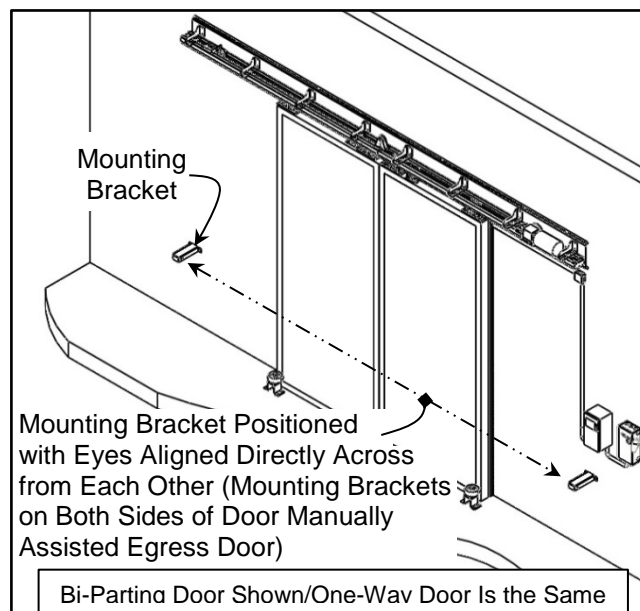

Figure 42
3. Locate the photo eye set. The photo eyes that monitor the front side of the door are located in the heavy-duty mounting brackets on the wall, adjacent to the door panel(s). (See Figure 42)